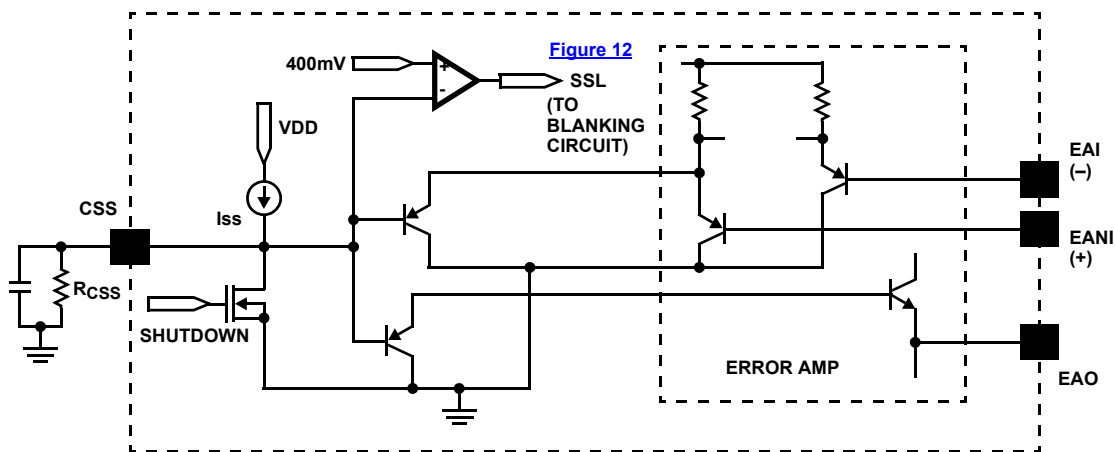

FIGURE 7. SIMPLIFIED CLAMP/SOFT-START
- Both EANI and EAO are clamped by the voltage (Vclamp) set at the CSS pin, as shown in Figure 7. Note that the diodes in the functional block diagram represent the clamp function of the CSS in a simplified way.
- The clamping voltage determines the cycle-by-cycle peak current limiting of the power supply. It should be set above the EANI and EAO voltages and can be programmed by an external resistor as shown in Figure 7 using Equation 3.
- In current mode control, the sensed switch (FET) current is processed in the Ramp Adjust and LEB circuits and then compared to a control signal (EAO voltage). Spikes, due to parasitic elements in the bridge circuit, would falsely trigger the comparator generating the PWM signal. To prevent false triggering, the leading edge of the sensed current signal is blanked out by a period that can be programmed with the R\_LEB resistor. Internal switches gate the analog input to the PWM comparator, implementing the blanking function that eliminates response degrading delays, which would be caused if filtering of the current feedback was incorporated. The current ramp is blanked out during the resonant delay period because no switching occurs in the lower FETs. The leading edge blanking function will not be activated until the soft-start (CSS) reaches over 400mV, as illustrated in Figures 7 and 12. The leading edge blanking (LEB) function can be disabled by tying the R\_LEB pin to VDD, i.e., LEB = 1. Never leave the pin floating.